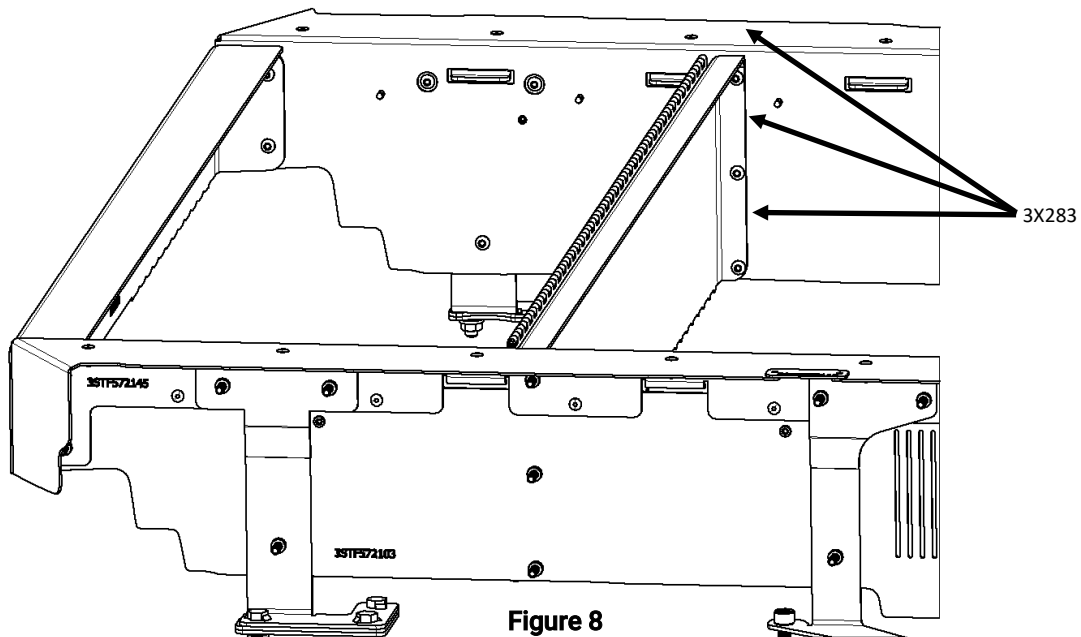

Figure 8
1. Locate the Rear Mid Panel Assembly [4STF5725131] and (6) [3X283] 1/4-20x1 Button Head Socket Cap Screws.
2. Mount Front Mid Panel Assembly to Driver Side Panel Assy with 1/4" hex drive as shown in Figure 8. Repeat for attaching to Passenger Side Panel Assy.